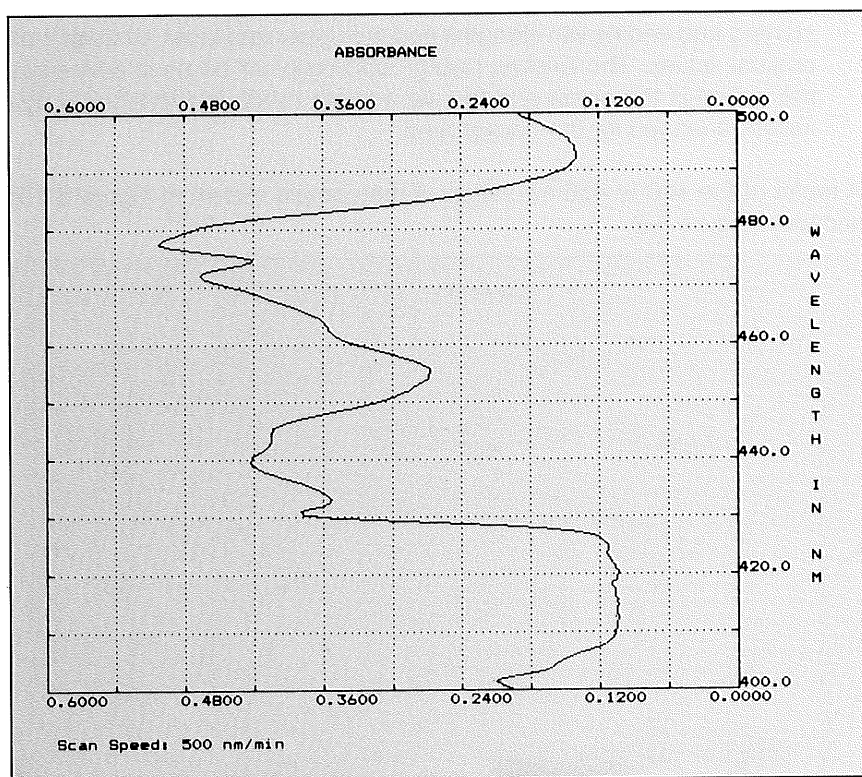
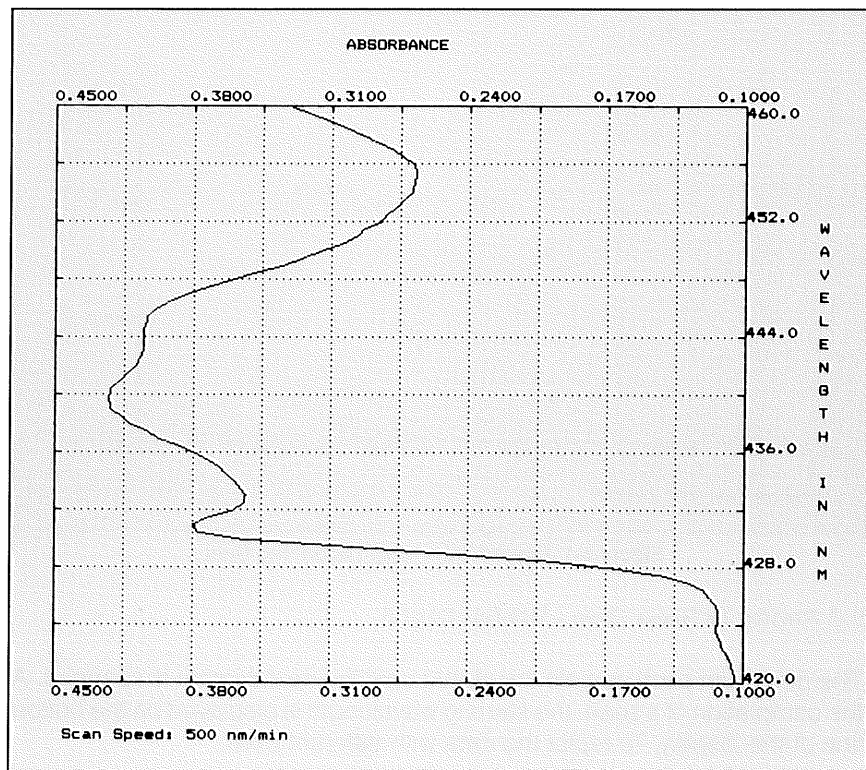

Figure 5-1. Plotted Wavelength Scanning Data
Figure 5-2. Replot of Scan Data
12. When the background scan is complete, the status field on the display is changed to "Scan". Place the sample in the sample compartment and press **READ**. The scan data are collected first, then plotted on the Printer/Plotter. Sample data are shown in Figure 5-1.
A replot of the 420 to 460 nm range of the sample shown in Figure 5-1 is shown in Figure 5-2.
15. To redisplay the data with different axes or to plot the data in the format shown in Figures 5-1 and 5-2, refer to section 5.7.
As an alternative, the scan data can be plotted by the Printer/Plotter, irrespective of the graphic display. The data will be plotted in the format shown in Figures 5-1 and 5-2. To plot the data: